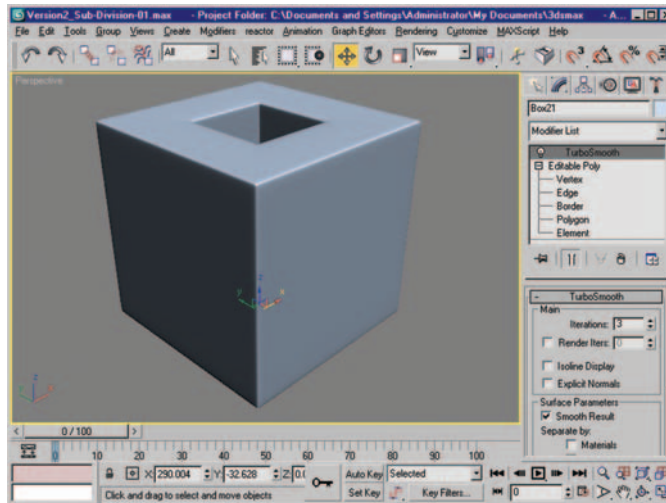

Figure 6.45 *Subdivided mesh.*
13. Turn on TurboSmooth to see the impact the new edges have (Figure 6.45).